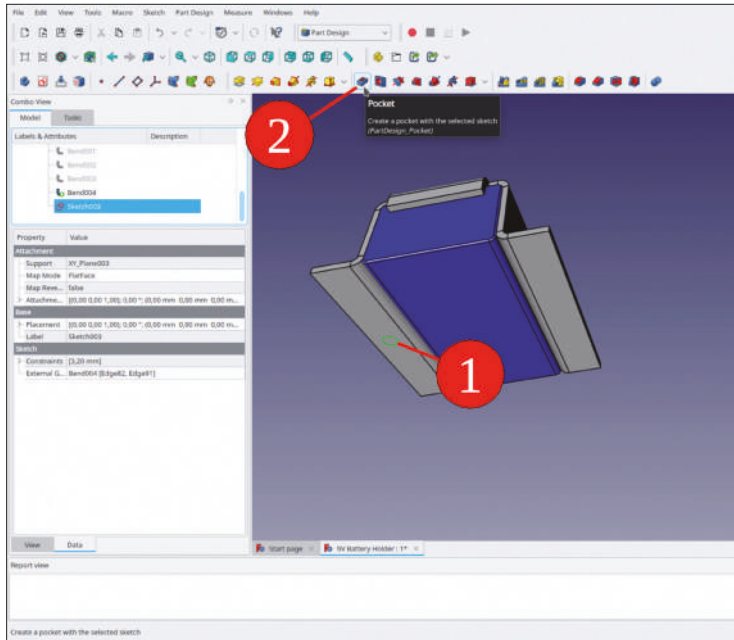

Figure 5-18
22. In the tree view, mark the new sketch and click the 'Pocket' tool button (Figure 5-18).